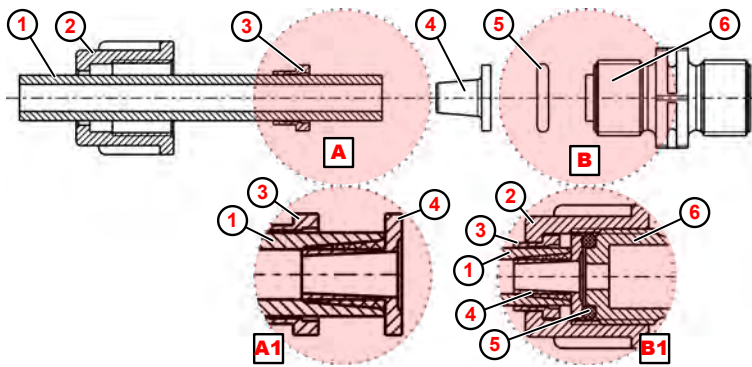

Fig. 8: Pipe-to-hose connection with tapered part
1. ➤ Cut off the hose with a straight cut (Fig. 8 , ①).
2. ➤ Slide the union nut ② over the hose ① .
3. ➤ Slide the clamp ③ over the hose ① .
4. ➤ Slide the hose ① onto the tapered part ④ up to the stop collar (for details, Ⓐ1).
5. ➤ Slide the tensioning piece ③ towards the tapered part ④ until you feel resistance.
6. ➤ Place the o-ring ⑤ in the groove of the suction or pressure valve ⑥ .
7. ➤ Tighten the union nut ② (for details, see Ⓑ1).